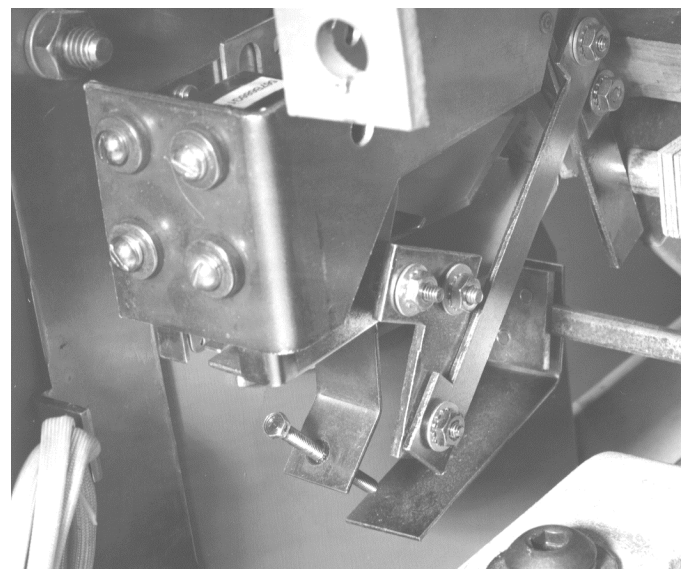

Figure 10. Adjusting the flux shifter.
1. With the breaker OPEN and the mechanism charged, set the gap between the trip paddle and the end of the flux shifter rod at 0.10 inch, as shown in Figure 10. Use a 0.10-inch diameter rod. Set the adjuster end of the trip rod and lock it in place with the jam nut. Note that removal of the buffer stud will make the trip paddle easier to install and adjust.